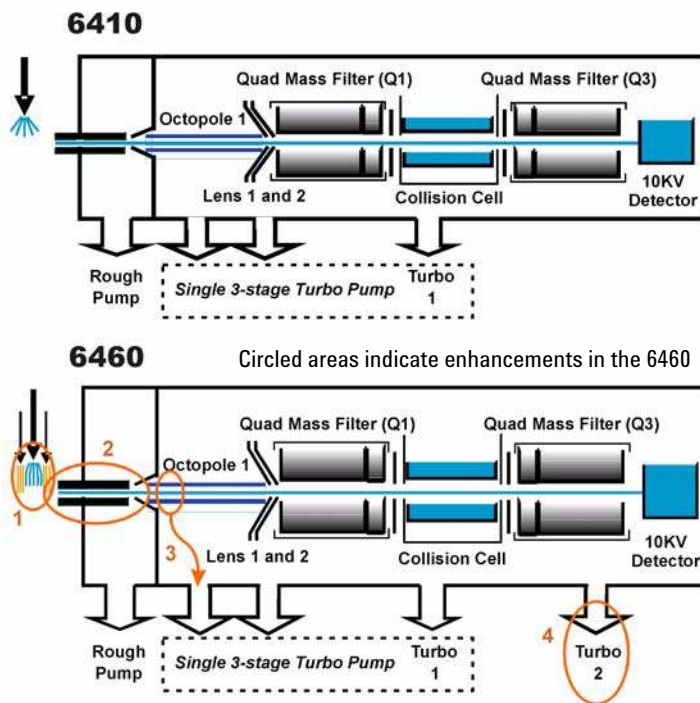

Figure 7 Innovative Enhancements in the 6460
The triple quadrupole mass spectrometer consists of an ion source, enhanced desolvation technology, followed by ion optics that transfer the ions to the first quadrupole positioned to the right of it. A diagram of the current two Triple Quadrupole LC/MS products is shown in Figure 7.
Ions are generated using an electrospray ion source where the analyte is simultaneously ionized and desolvated from the liquid matrix. The first of five (5) innovative Agilent enhancements is found in the application of Agilent Jet Stream Technology (denoted as 1 in Figure 7) which improves sensitivity via thermal gradient focusing and enhanced desolvation.
The desolvated ions then enter the mass spectrometer via an innovative resistive and highly inert capillary transfer tube (denoted as 2 in Figure 7) that improves ion transmission and allows virtually instantaneous polarity switching.
Further improving the sensitivity is improved pumping in vacuum stage 2 that allows more pumping speed behind the skimmer and improved ion capturing by first octopole (denoted as 3 in Figure 7). The ions next pass through optics and into the first quadrupole analyzer. The quadrupole analyzer consists of four parallel hyperbolic rods through which selected ions based on their mass to charge ratio are filtered.
collision cell that has axial acceleration for high speed MS/MS analysis (denoted as 4 in Figure 7). Fragment ions formed in the collision cell are then sent to the third quadrupole for a second filtering stage to enable a user to isolate and examine product ions with respect to precursor ions.
Finally, the ions that pass through the third quadrupole are detected using a high energy detector. A second turbo pump has been added (denoted as 5 in Figure 7) to increase pumping speed and improve the vacuum which will further improve the signal to noise and enhance the limit of detection of the triple quadrupole.